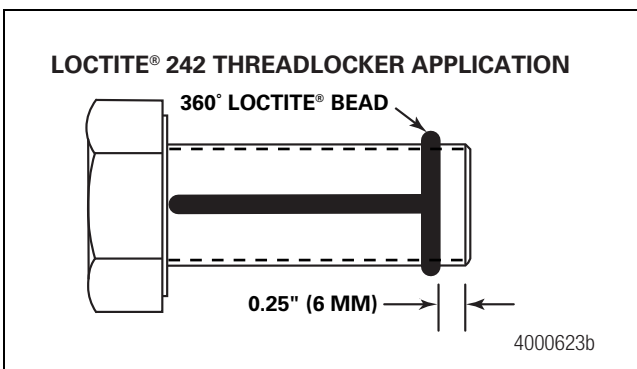

Figure 4.14
13. Apply a 0.125-inch (3 mm) bead of Loctite® 242 threadlocker around the capscrew threads approximately 0.25-inch (6 mm) from the end. Apply a 0.125-inch (3 mm) bead of Loctite® 242 threadlocker across the length of the threads. Figure 4.14.